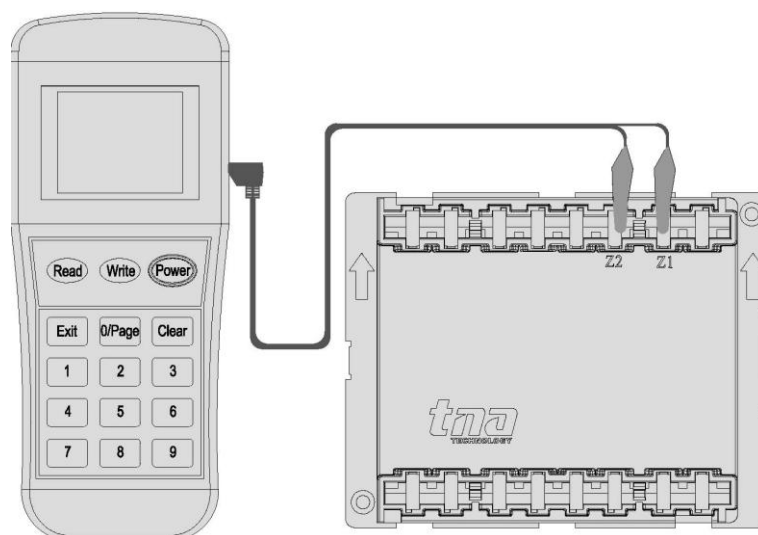

Figure 6: Programmer Connection Detail
1. Connect the programming cable to Z1 and Z2 terminals (Figure 6). Press **“Power”** to switch on the unit.
2. Connect the programming cable to Z1 and Z2 terminals (Figure 6). Press **“Power”** to switch-on the unit.
2. To set to check mode. Connect the programming cable to Z1 and Z2 terminals (Figure 6). Press **“Power”** to switch-on the unit.
1. Connect the programming cable to Z1 and Z2 terminals (Figure 6). Press **“Power”** to switch-on the unit.